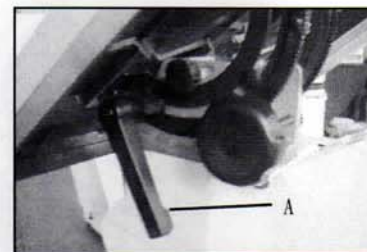

Fig. 4
2. Loosen the lock knobs (A, Fig. 4) and tilting table left until it rests against table stop bolt M8.(A, Fig. 5)